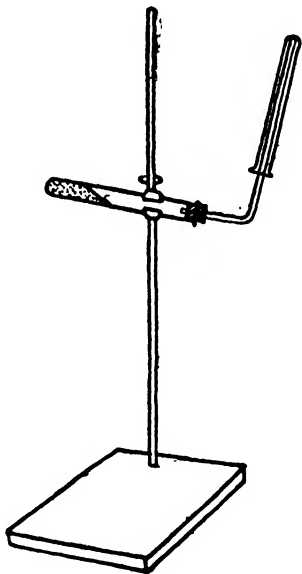

FIG. 101.—Preparation of ammonia.
8. *Preparation of Ammonia.*—On a paper mix equal quantities of sal ammoniac and slaked lime. Fill a test tube one-half full of the mixture and fit it with a one-holed stopper and bent delivery tube as shown in Fig. 101. Heat the test tube gently with a small flame and hold over the delivery tube a strip of moist red litmus